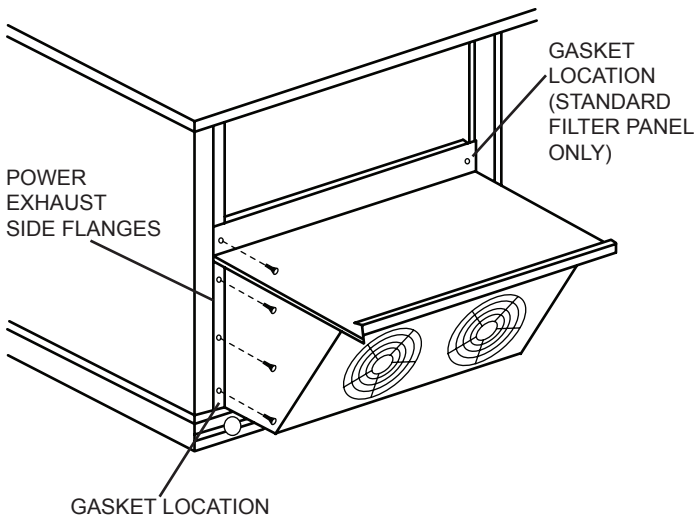

Figure 14 - Power Exhaust Installation
2. Attach the sealing angle to the top of the power exhaust hood using the screws provided. Refer to Fig. 14. Note that the gasketing flange will be facing out.
6. Remove the hinged door and drill four (4) 11/64 in. holes where the marks are.